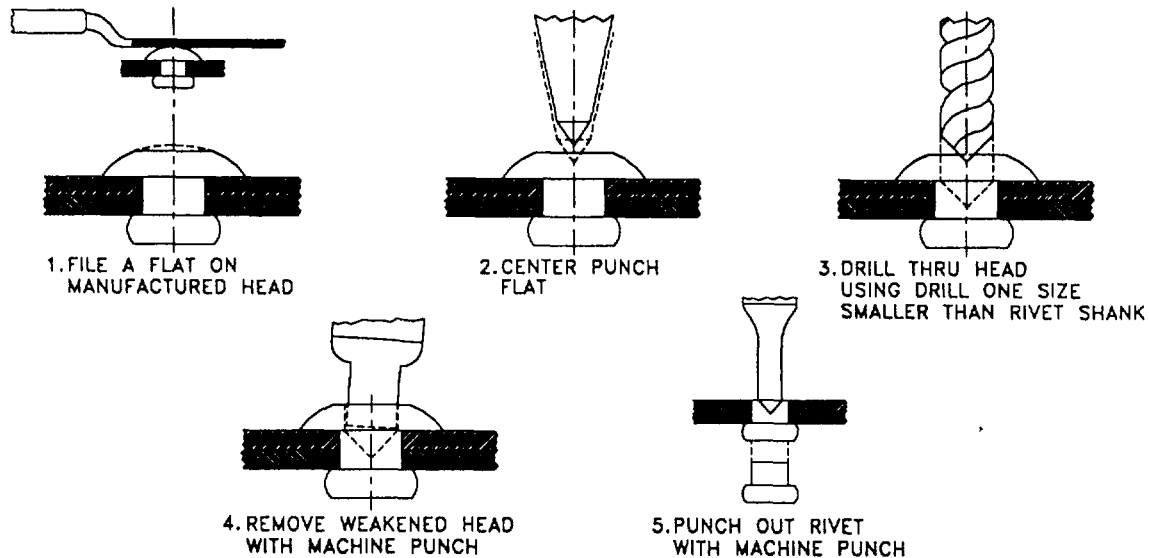

Figure 5-1. RIVET REMOVAL
- a. *Removal.* Remove rivets on MCPS components as shown and described in Figure 5-1.